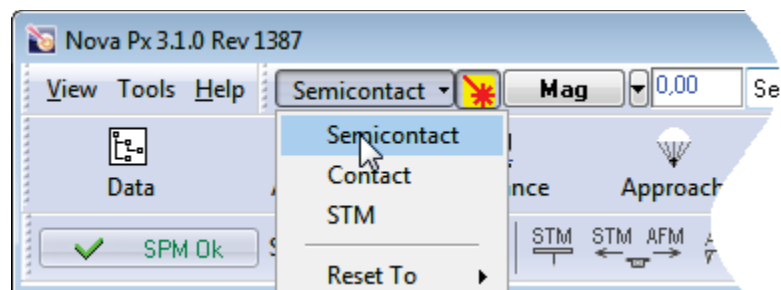

Fig. 13-48. Selecting controller configuration
1. In the controller configuration drop-down list, select **Semiconduct** (Fig. 13-48).